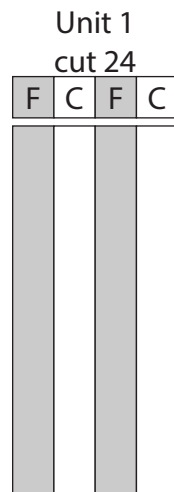

Fig. 8
10. From the (2) Strip Set 1's cut (24) 8 1/2" x 2 1/2" Unit 1 strips (Fig. 8).